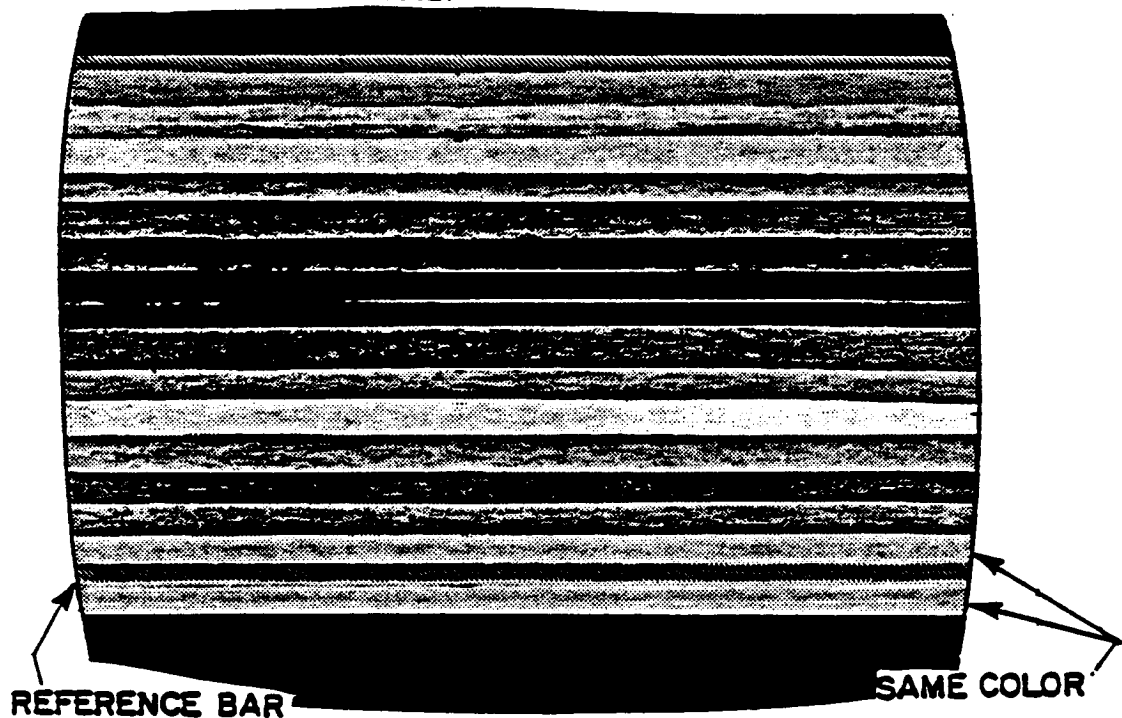

Figure 2-1. Color Bar Screen
- Format: A screen of horizontal color bars displays (See Figure 2-1). The screen should be steady and unchanging. A grey or blue horizontal reference line runs across the screen about three bars from the bottom. This reference line is thinner than the bars around it. R15 should be adjusted so the bars immediately above and below the reference line are essentially the same shade. Proper operation of the unit is indicated by being able to make this adjustment and by consistent color within the entire span of each bar on the screen. Leave this test on for at least ten seconds in order to catch any intermittent problems, such as a bar momentarily changing colors or blanking out.